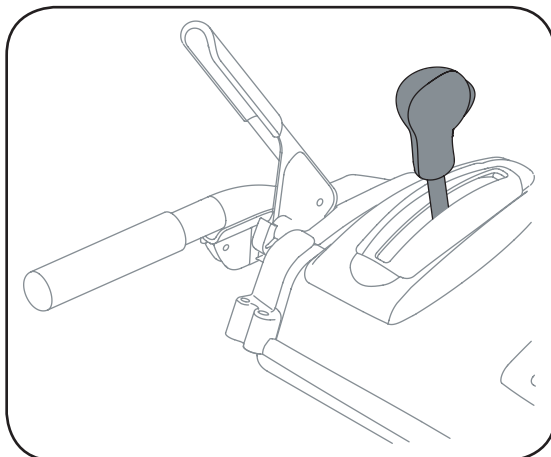

Figure 3
5. Place the 4-way chute control in a centered position. See Figure 3.